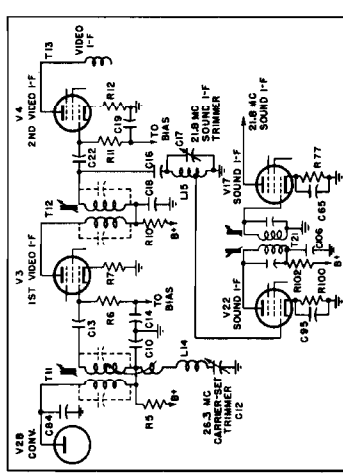

Fig. 3. Video and Audio I-F Amplifier
2. VIDEO AND AUDIO I.F. AMPLIFIERS (SEE FIGURE 3)—The video amplifier makes use of a three-stage bandpass amplifier using three Type 6AU6 tubes. The transformers, T11, T12, T13, and T14, are overcoupled and then loaded with reactance in the